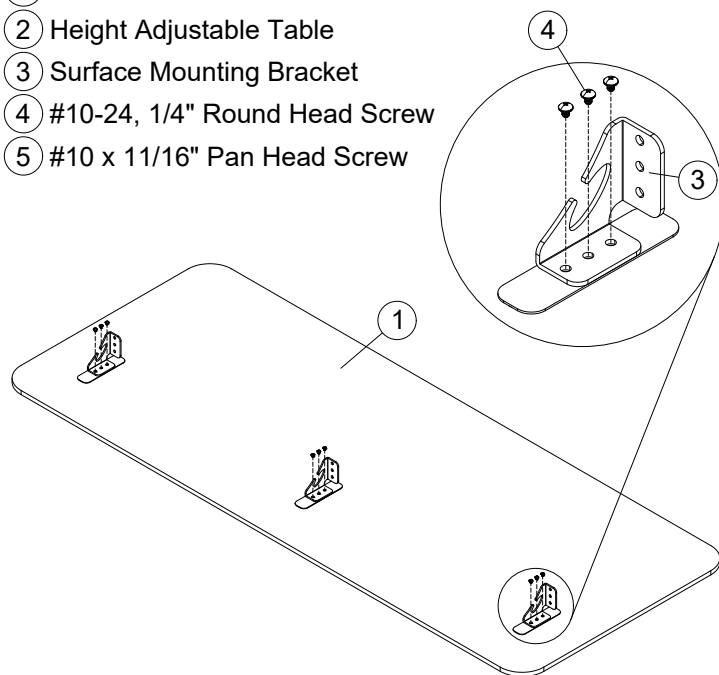

Figure 1
1. Place the PET Screen on a flat surface. Attach three Surface Mounting Brackets to the PET Screen using #10-24, 1/4" Round Head Screws and a drill, as illustrated in Figure 1.